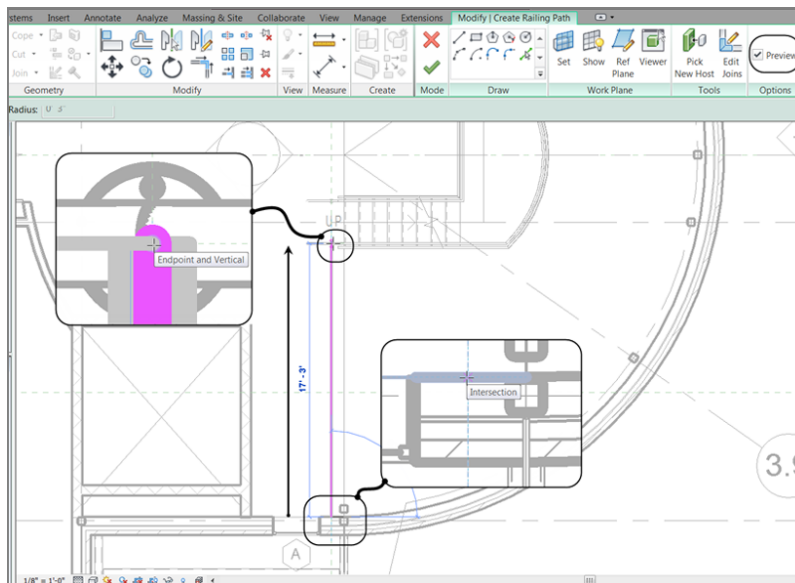

FIGURE 10.24: Sketching the path of the railing
10. Pick a point at the intersection of the reference plane and the south wall, as shown in Figure 10.24.
11. Click the Preview button on the Options bar (see Figure 10.24).
12. Pick the intersection of the reference plane and the ADA - Handrail (see Figure 10.24).